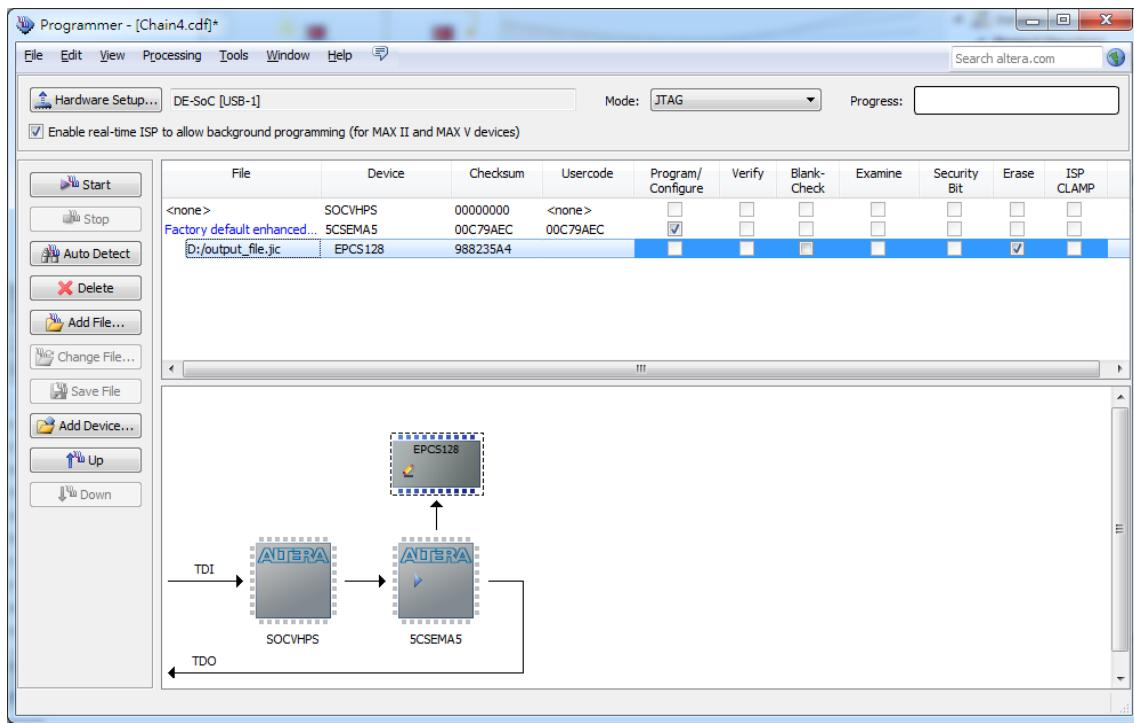

Figure 8-8 Erase the EPCS device in Quartus II Programmer
5. Erase the EPICS device by clicking the corresponding **Erase** box. A factory default SFL image will be loaded, as shown in **Figure 8-8**.